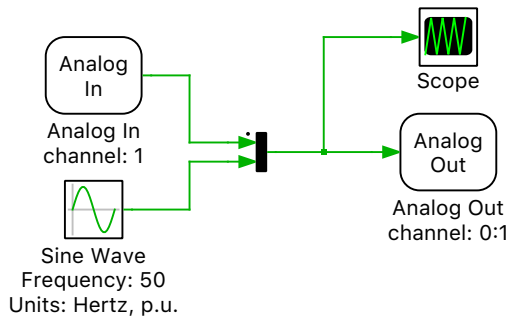

Figure 3: An analog input channel and sine wave connected to an analog output
**Note:** For all RT Box I/O you can enter a single I/O channel or a vector of channel indices. Since there are two multiplexed channels, you should enter “0:1” in the Analog output channel parameter. The scale and offset values can be entered as vectors that are equal in length to the number of channels or entered as scalars that apply to all channels. Your model should look like Figure 3. At this point, you should adjust the frequency of the generated sine wave from 50 Hz to the AC mains frequency of your region.